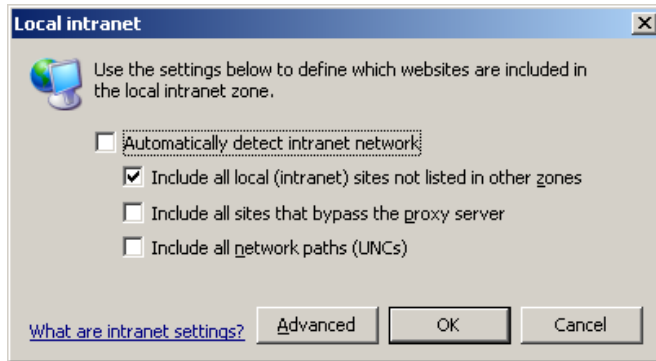

Figure 37. Local Intranet Dialog Box
19. Click **Sites** to open the Local Intranet dialog box (Figure 37).
10. Click **Sites** to open the Local Intranet dialog box (Figure 37).